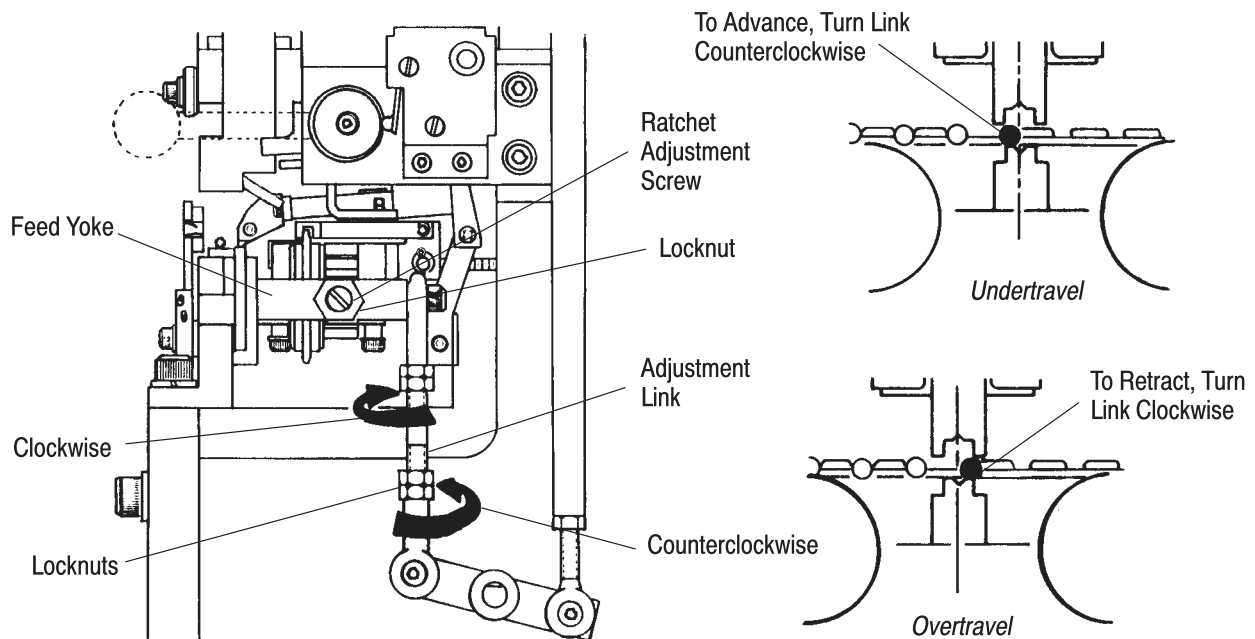

Figure 21
7.5. Tape Belt Feed Adjustments (Figure 21)